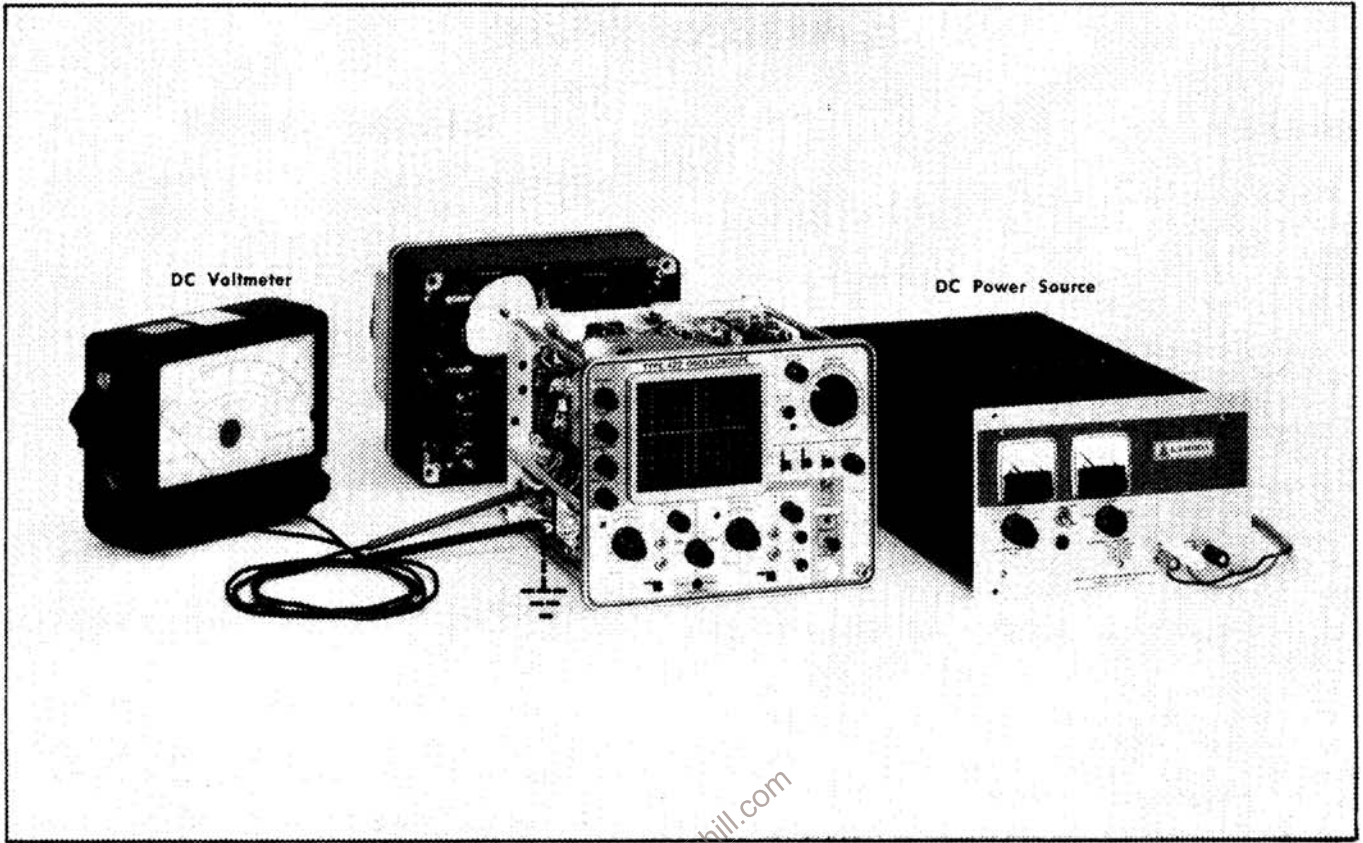

Fig. 6-1. Test equipment setup for —12-volts supply adjustment
The following equipment is required for complete calibration of the Type 422 AC-DC Power Supply (Fig. 6-1 in the Type 422 Indicator Manual shows items 1 through 4).
- Test equipment setup is shown in Fig. 6-1.